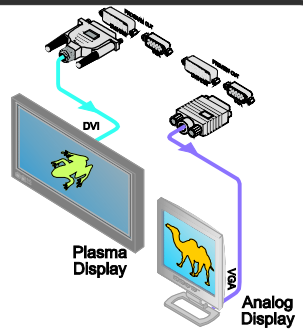

Figure 9: Example showing the use of the PREVIEW and PROGRAM Output
- See how the scaled output will look before displaying live during a presentation. As the example in Figure 9 illustrates, after seeing how the RGB source looks when scaled to HDMI, it can be interchanged with the YUV source, seamlessly, using an elaborate (in this case chessboard) transition effect
- The Swap² mode (shown in Figure 9), in which the PREVIEW input buttons and the PROGRAM input buttons switch places after pressing the TAKE button. For example, in Figure 9 the PROGRAM input button 3 would switch to 2 and the PREVIEW input button 2 would switch to 3, so the RGBS source is displayed on the PROGRAM screen and the Component source is displayed on the PREVIEW screen.